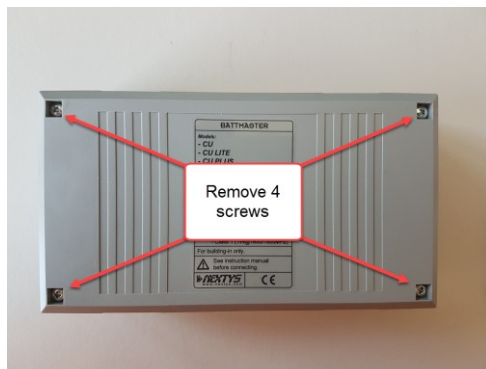

Figure 68: CU back screws
- ▶ Remove the 4 screw on the back as shown on Figure 68.